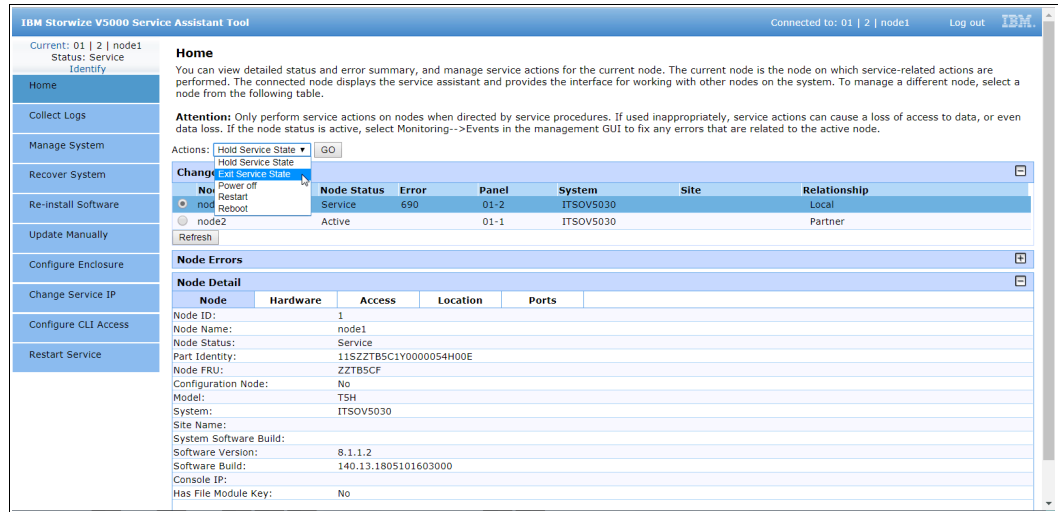

Figure 12-60 Exiting the Service state in the Service Assistant Tool
15. To exit Service state, browse to the Home window of the Service Assistant Tool and open the Actions menu. Select **Exit Service State** and click **Go** (see Figure 12-60).